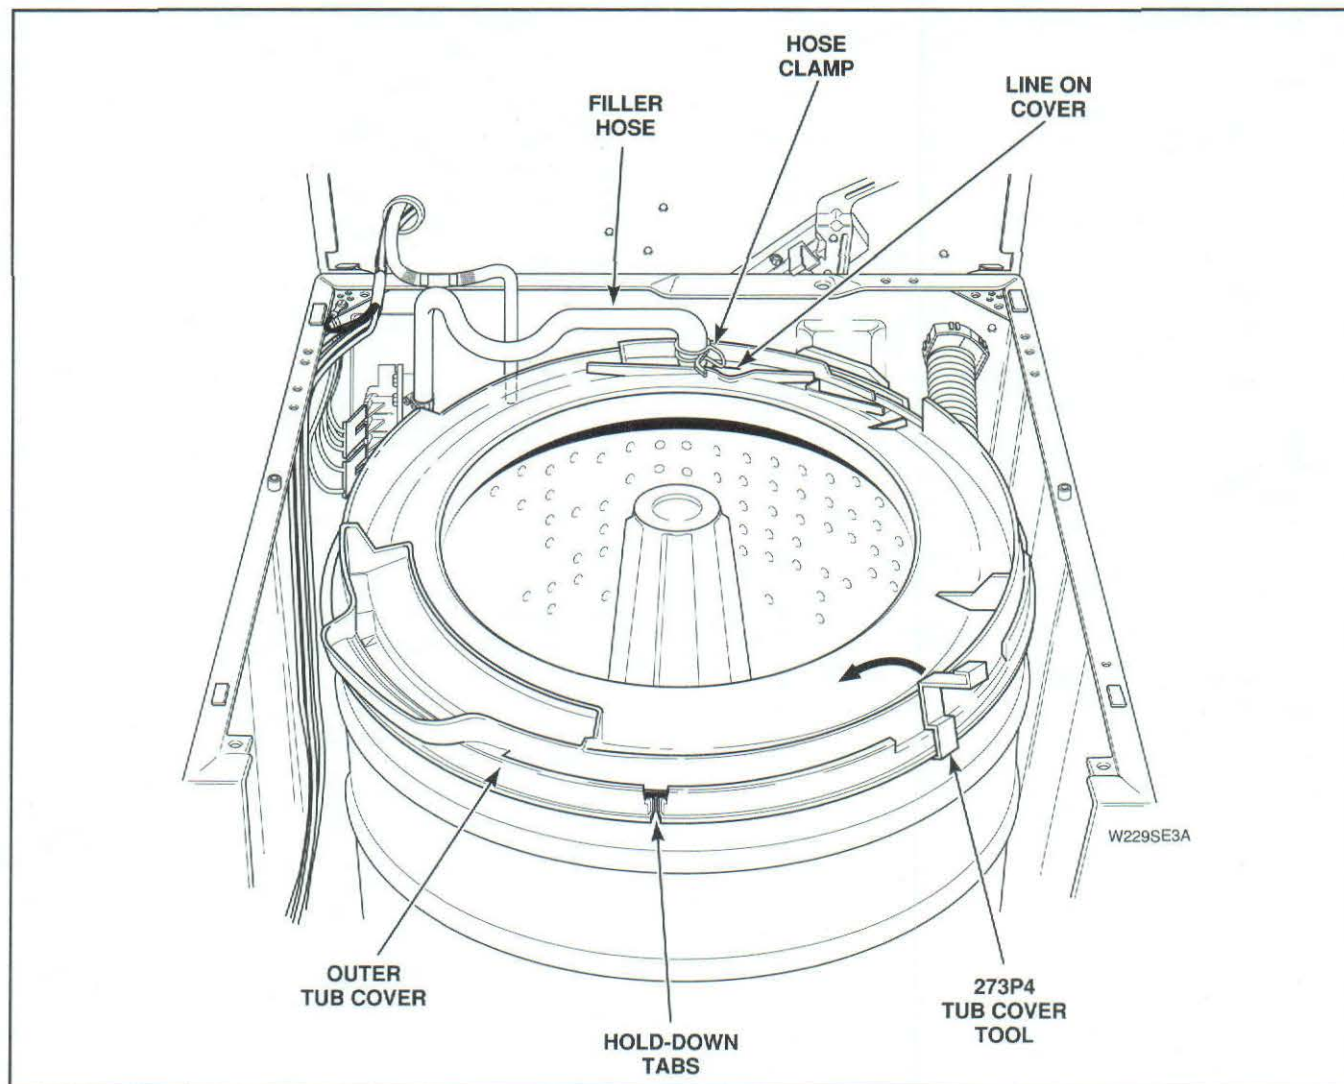

Figure 37
- Loosen hose clamp and remove filler hose from outer tub cover, *Figure 37*.
NOTE: When installing filler hose, white line on hose must be aligned with line located on top side of outer tub cover, *Figure 37*.
- Unhook pressure hose and grommet from retainer clip located on left rear edge of outer tub cover, *Figure 37*.
- There are eight tub cover hold-down tabs which snap over outer tub flange. Using special tub cover tool, Part No. 273P4, insert two prongs of tool underneath each side of tandem tabs, *Figure 37*. Tilt tool toward center of tub cover and at same time lift upward on cover to unsnap hold-down tabs from outer tub flange. One by one, disengage each of the eight hold-down tabs from outer tub flange and remove cover.
- g. Unhook pressure hose and grommet from retainer clip located on left rear edge of outer tub cover, *Figure 37*.
- h. Loosen hose clamp and remove filler hose from outer tub cover, *Figure 37*.
NOTE: When reinstalling filler hose, white line on hose must be aligned with line located on top side of outer tub cover, *Figure 37*.
1. There are eight tub cover hold-down tabs which snap over the outer tub flange. Using special tub cover tool, Part No. 273P4, insert two prongs of tool underneath each side of tandem tabs, *Figure 37*. Tilt tool toward center of tub cover and at the same time lift upward on cover to unsnap hold-down tabs from outer tub flange. One by one, disengage each of the eight hold-down tabs from outer tub flange and remove cover.